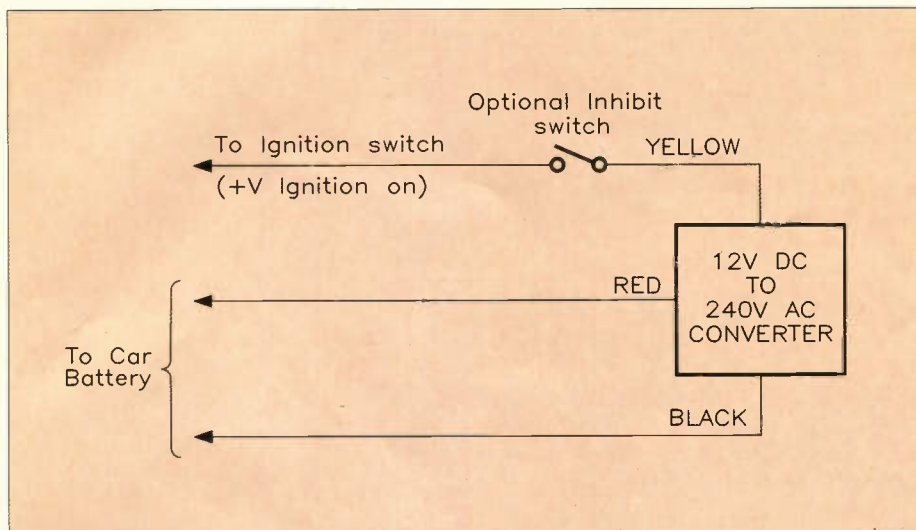

Figure 1. Typical motor vehicle installation.
Similarly if the control wire is disconnected then the unit will be switched off, therefore it provides a means of switching the 240V supply on and off without the need to actually switch the heavy-duty low tension supply, with all the problems that that may involve. Figure 1 shows this idea, with the Yellow control wire connected to the auxiliary (position 1) outlet of a motor vehicle's ignition switch, with an optional extra 'inhibit' switch in series. The latter allows the converter to be completely disabled when not required for all normal usage of the vehicle.
Figure 1 shows how the converter is normally wired up to a motor vehicle, as described earlier. If a permanent installation is required, then the free wire ends of the three input leads should be connected, using suitable connectors, as follows: the Red and Black wires to the battery positive and negative terminals respectively, and the Yellow control wire to a convenient point powered by the ignition switch auxiliary (1) position (for example radio supply). The case of the converter is negative earth and can be safely installed in some convenient place inside the vehicle (never mount it outside!).